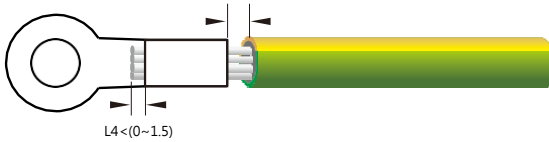

Figure 5.2 Crimping a cable (unit: mm)
- Step 2 : Insert the exposed core wires into the crimping areas of the ring terminal and crimp them using hydraulic pliers, as shown in Figure 5.2